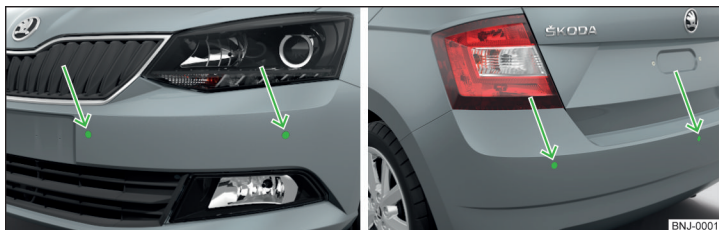

Fig. 219 Installation location of the sensors on the left side of the vehicle: front/rear
- Keep the system sensors » Fig. 219 on page 178 clean and free from snow and ice, and do not cover them with any objects of any kind, otherwise the functioning of the system may be restricted.
The system uses ultrasonic waves to calculate the distance between the bumper and an obstacle. The ultrasonic sensors are, depending on vehicle equipment, located in the back or in the front bumper » Fig. 219.